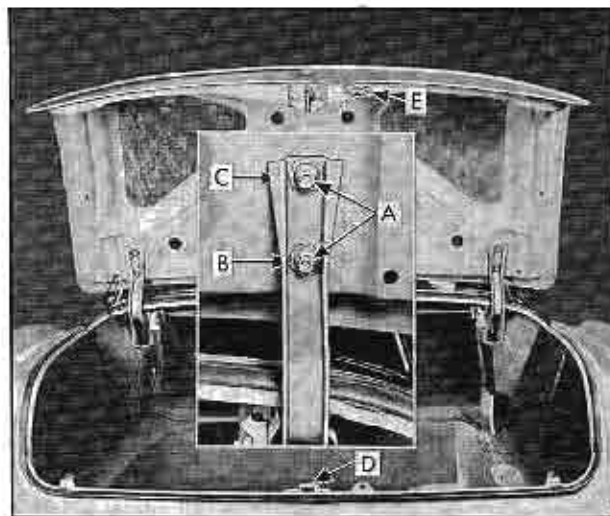

Fig. 3-79 Deck Lid Adjustment
1. The rear compartment lid can be adjusted forward or rearward and from side to side in the rear compartment lid body opening through the use of elongated bolt holes in the hinge straps and movable bolt attaching plates in the lid. To adjust, loosen hinge strap retaining bolts "A", Fig. 3-79, shift lid to required position and tighten bolts.
a. To raise lid at hinge area, place a thin shim under forward edge of one or both hinge straps at "B", to obtain desired adjustment. Fig. 3-79.
b. To lower lid at hinge area, place shims under rear end of lid hinge straps at "C", to obtain the desired adjustment. Fig. 3-79.
4. Remove the two bolts at each hinge strap at "A", Fig. 3-79, and with the aid of a helper remove rear compartment lid.